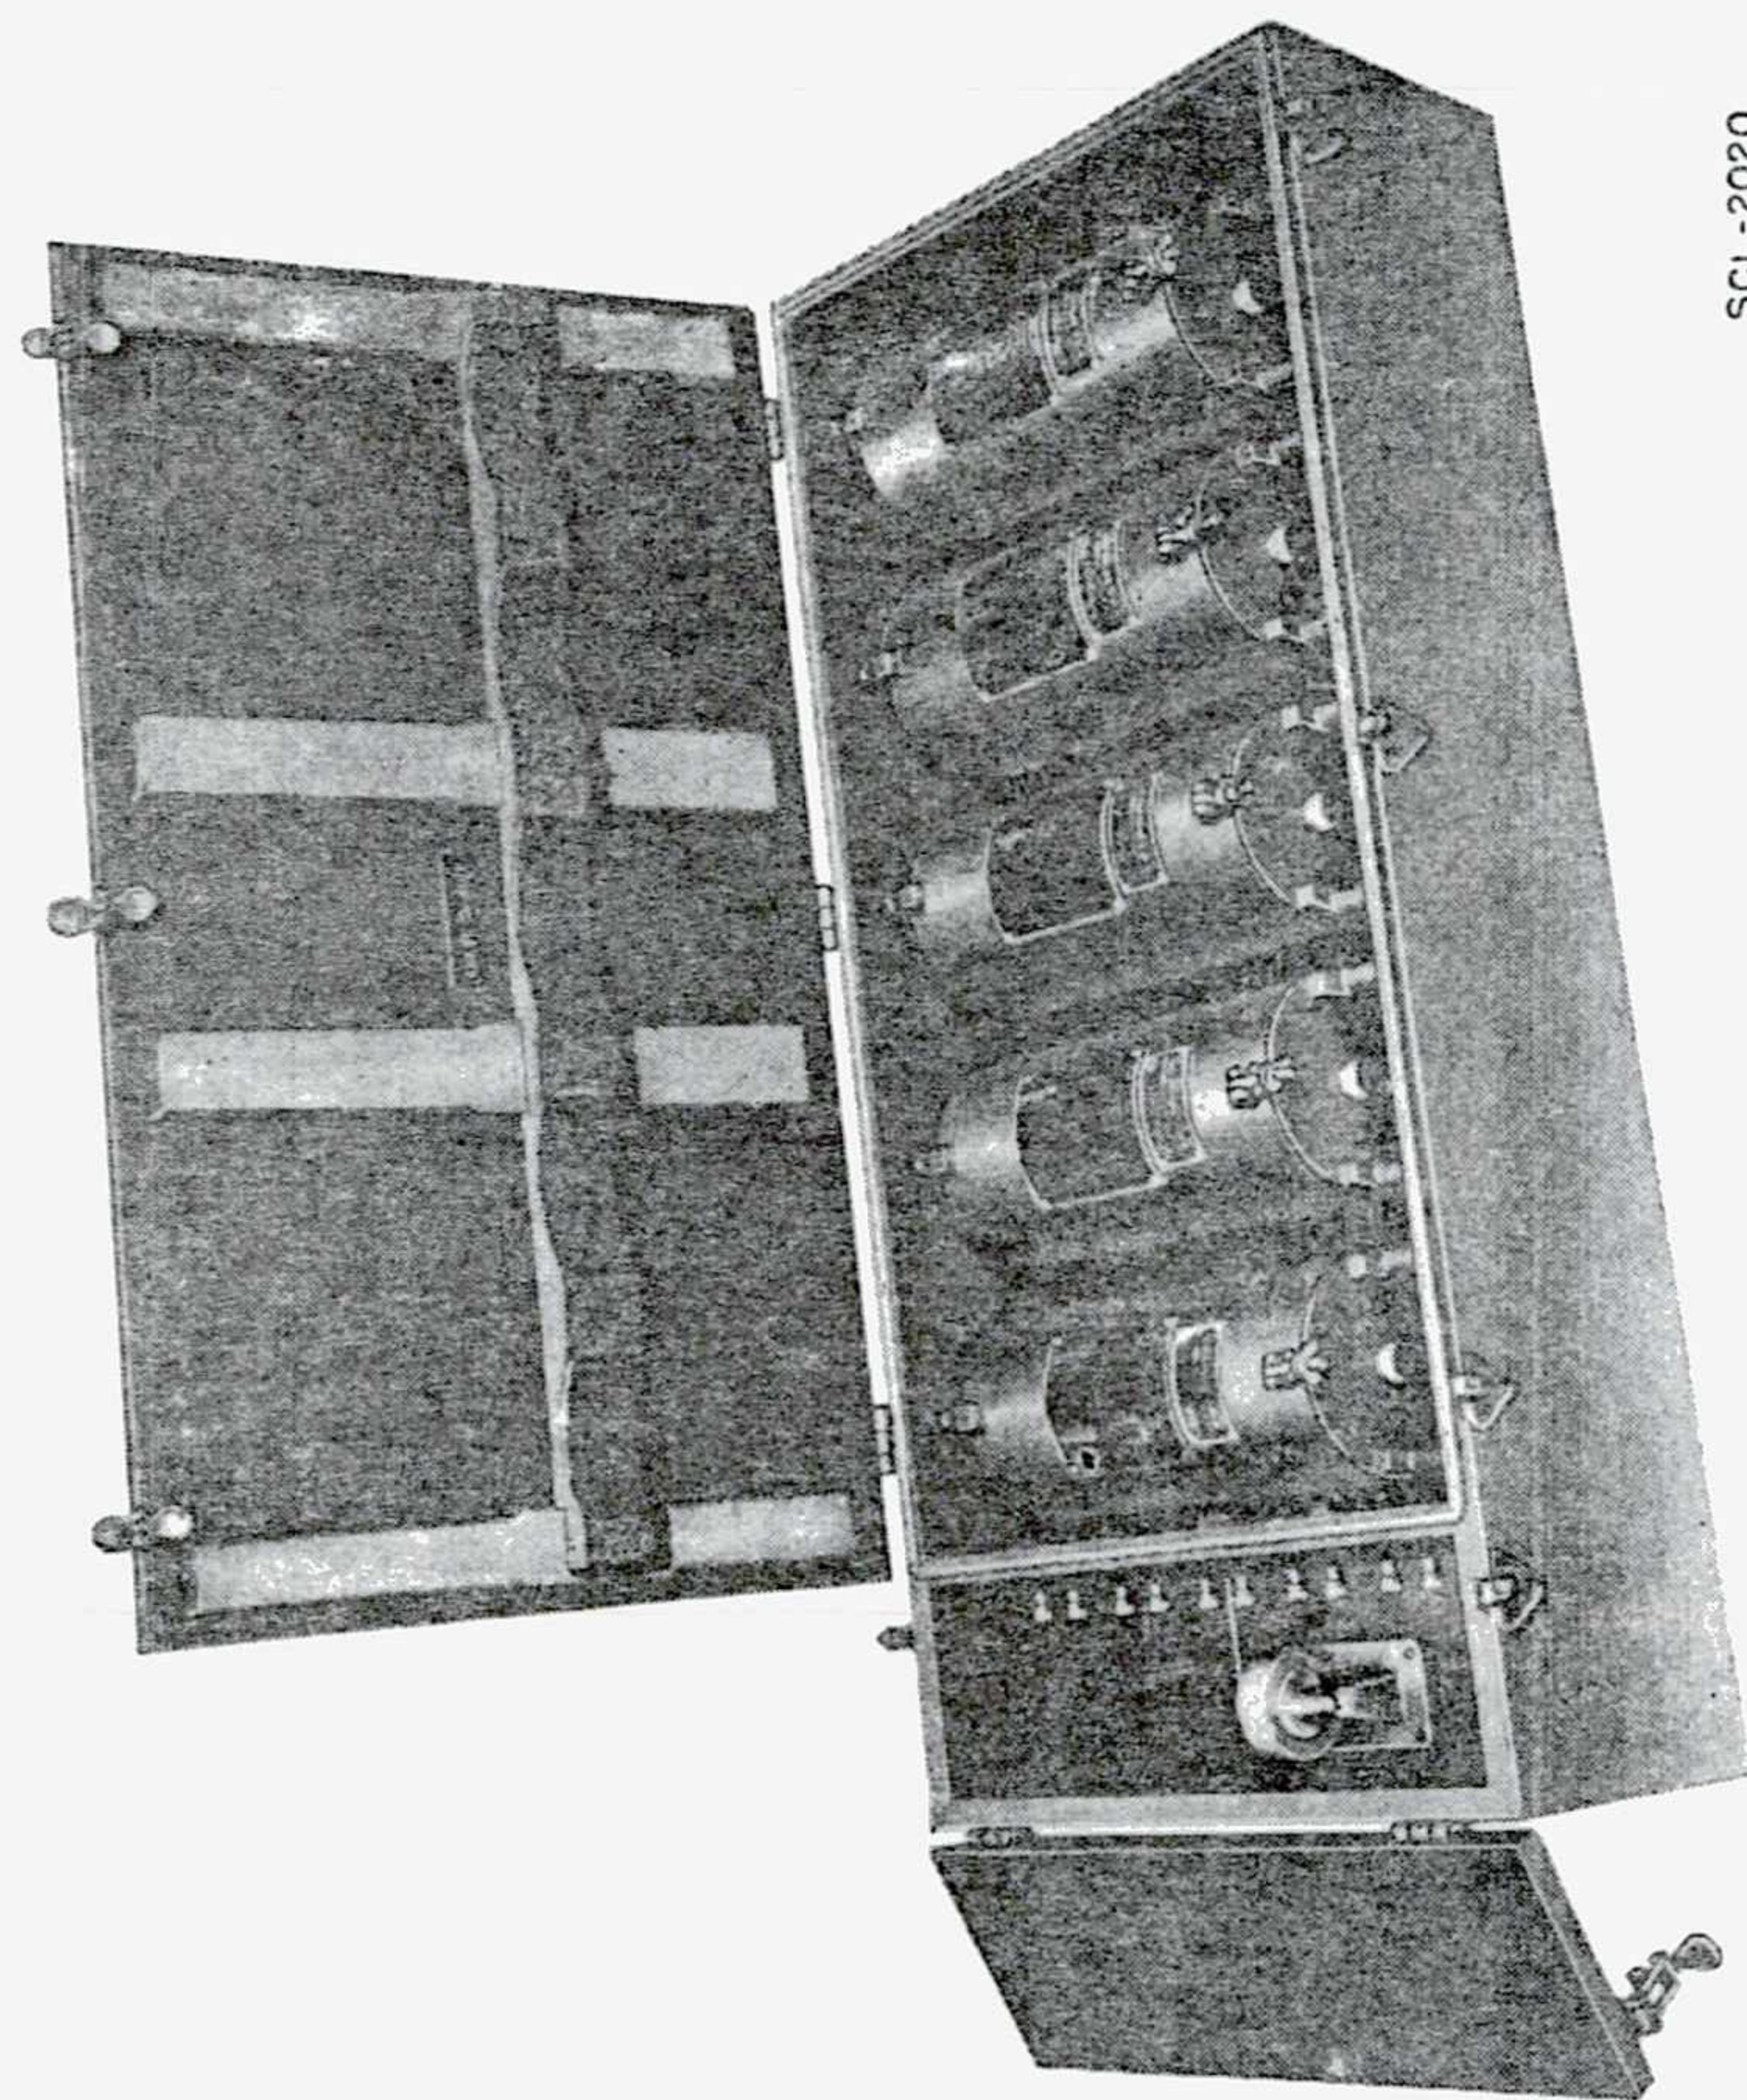

Figure 5.—Chest CH-40-(*), showing pistonphone and five Microphones T-21-(*).
formance. Chest BC-5 is used for general purposes. The other chests (figs. 5 and 6) are used specifically as follows:
(1) Test Set EE-65-(*) is designed for testing and locating trouble on magneto telephone lines and equipment. (This test set is covered in TM11-361.)
(2) Test Set 1-56-C is a universal radio servicing set consisting of a radio set analyzer, output meter, voltohmmeter, and tube checker. Power supply for the tube checker is obtained from a 110-120-volt, 60-cycle, a-c line. A pamphlet of instructions is supplied with this test set.
(3) Photographer's Thermometer PH-28 is used to check the temperature of photographic chemical solutions.
(4) Chest CH-40-(*) (fig. 5) is a combined carrying chest for Microphones T-21-(*) and a testing chamber to check the operation of the complete sound recording channels. The microphone compartment is air-tight. At one end of the chest and connected to the microphone compartment is a pistonphone which provides a uniform sinusoidal variation in pressure over the frequency range necessary to determine the over-all response characteristic of each channel.
(5) The battery tester permits the reading of the voltage of each storage battery cell under load, and gives an indication of the internal condition of the battery.
The packing equipment consists of the chests given in the list of components and shown in figures 5 and 6. They are made of wood and have hinged covers secured by rugged clamps. Each chest is provided with carrying handles.